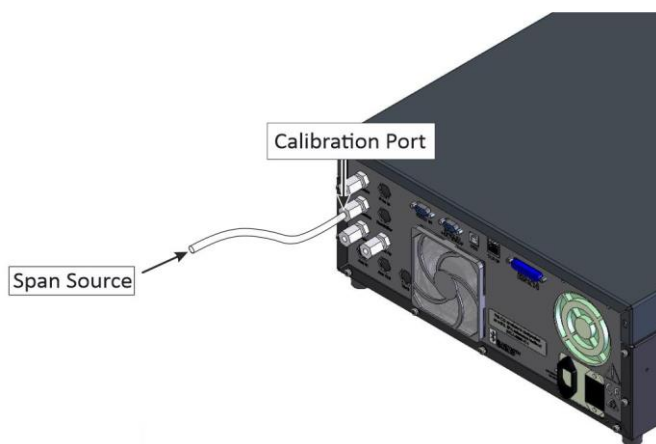

Figure 118 – Span Calibration Set-up - 1
1. Refer to Figure 118. Ensure a suitable span source is connected to the **Calibration Port**.